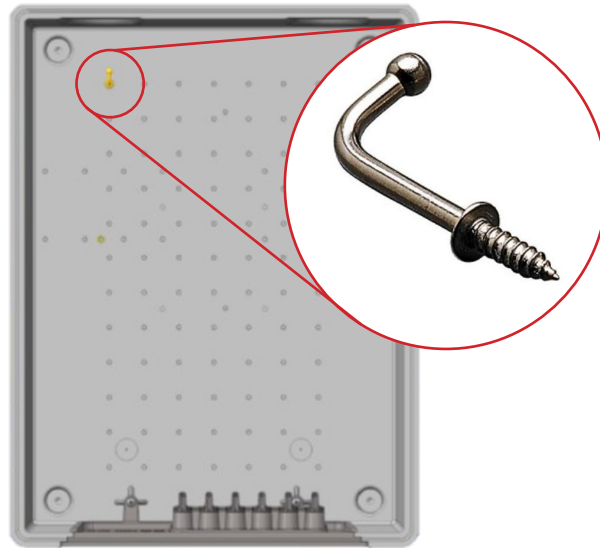

Figure 6
1. Place screw hook into a convenient location (hole) for tying off pullstring when waiting to pull fiber (**Figure 6**).